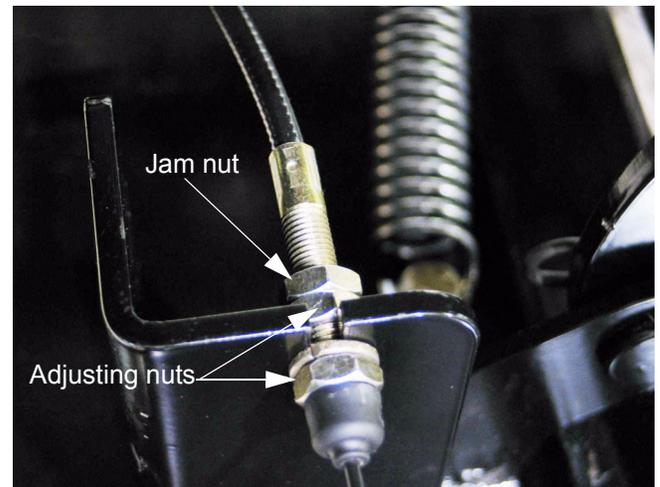

Figure 13.4
- 13.4. Tighten the second cable on the same wing until the hinge lock is at the same point of disengagement as the first, using a pair of 1/2" wrenches. See Figure 13.4.